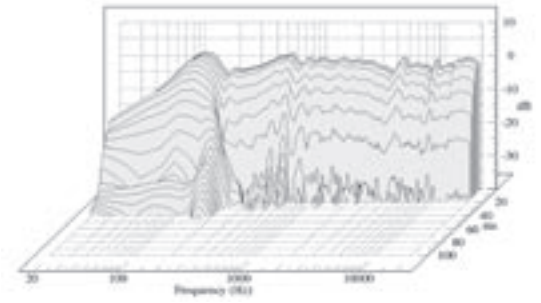

Fig. 7. Waterfall plot.
6) shows little evidence of echoes or reflections. The waterfall plot in Figure 7 shows evidence of a resonance at about 160Hz that corresponds with the dip in response noted above, apart from this, the response is seen to decay rapidly and evenly at all frequencies.